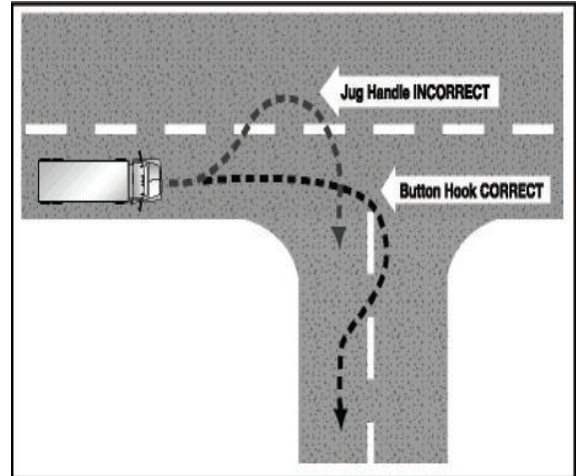

Figure 2.13
- If you must cross into the on coming lane to make a turn, watch out for vehicles coming toward you. Give them room to go by or to stop. However, don't back up for them, because you might hit someone behind you. See Figure 2.13.